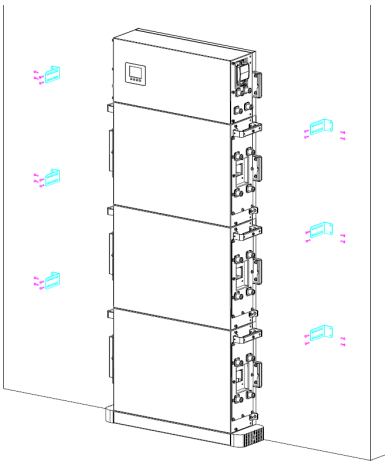
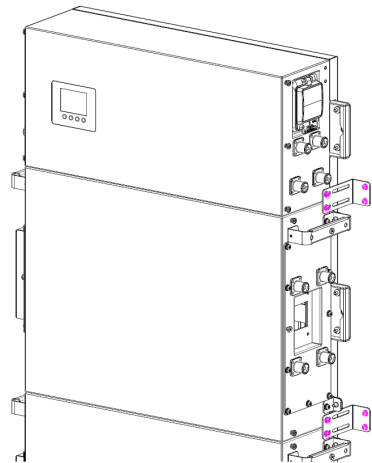

Figure 8: Control Box Installation
Figure 9: L-Bracket Installation
3. Stack each battery module on top of the previous one until all modules are stacked top to bottom. Then, set the control box on top of the final battery module. Secure each module to the wall using the L-brackets and fastener screws provided, as shown in Figure 8 and Figure 9 below.